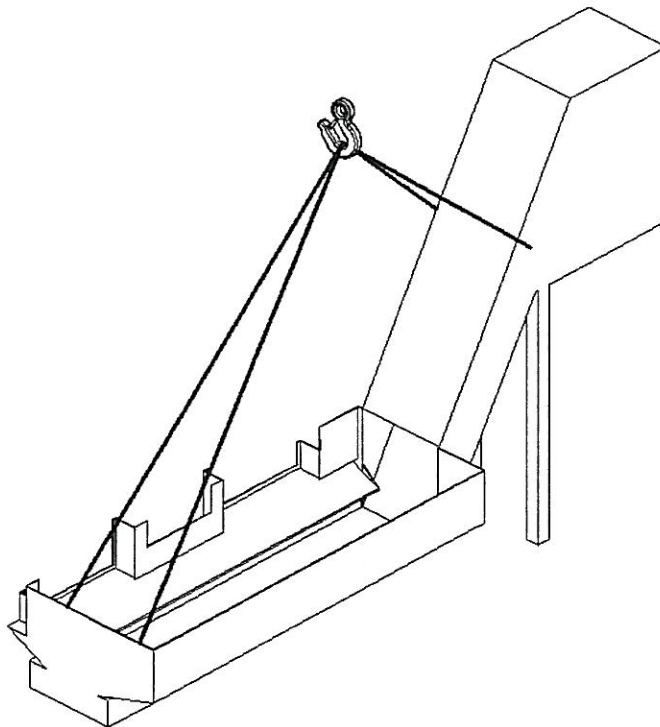

Figure 5.4.2: Lifting the Chip Conveyor
- If an overhead crane is used, lift the complete chip conveyor by using wire ropes of sufficient strength and lengths. Fix the ropes on the four corner of the chip conveyor as shown in Figure 5.4.2.
Refer Figure 5.4.2 for lifting details.